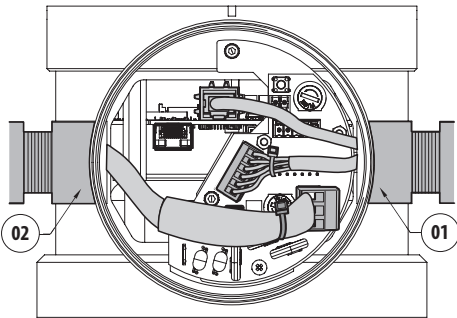

Fig. 17
For installations according to UL/CSA standards, the cables for Ethernet, reset, alarms, relays and fibre optics should be inserted in the right cables entry (01) as indicated in the following figure (Fig. 17, page 32).
For installations according to UL/CSA standards, pass the power supply cable through the cables input on the left (02), as indicated in the figure (Fig. 17, page 32).